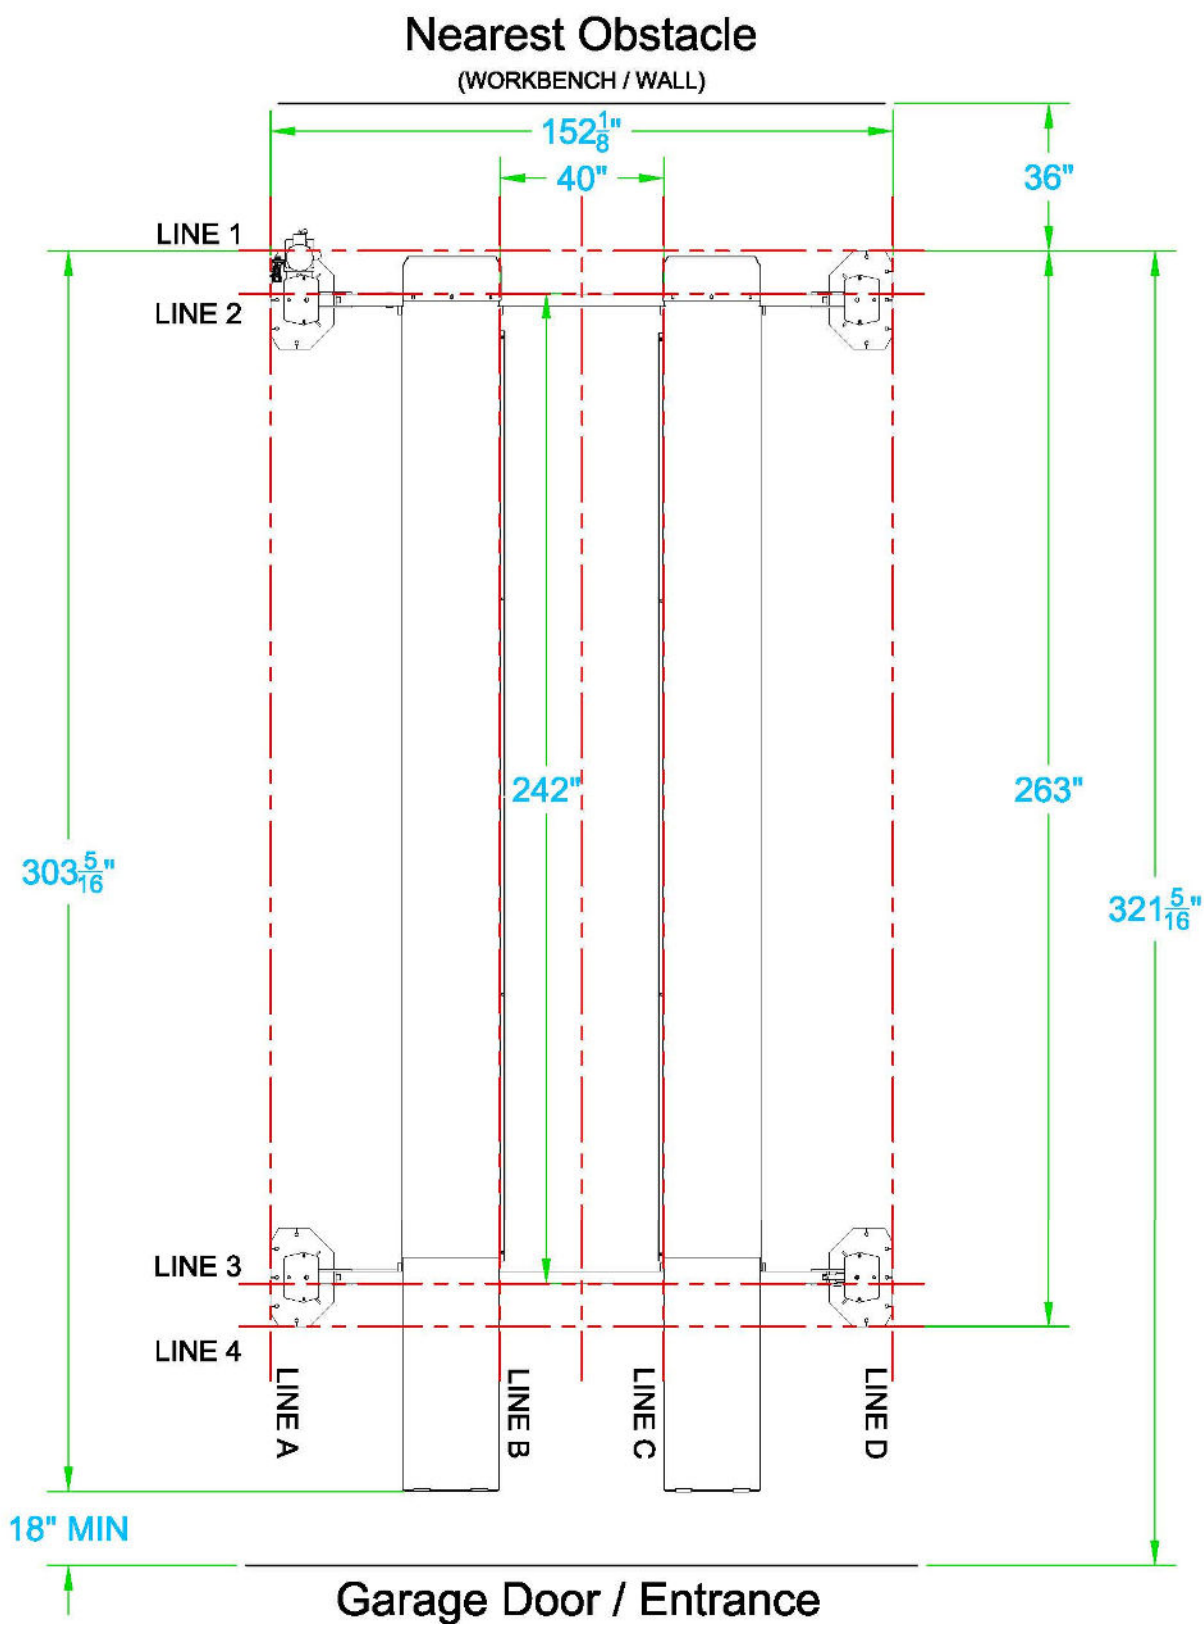

Figure 3 – Typical Bay Layout
- An outline matching the dimensions shown in **Figure 2** will need to be marked on the floor. Refer to **Figure 3** for outline dimensions. Refer to General Lift Specifications for overall lift dimensions.
- Recommended minimum clearance around the lift is three (3) feet. Ensure clearance conforms to local building and fire codes.
- Recommended overhead clearance is a minimum twelve (12) foot ceiling providing 6 feet for the maximum lift height and 6 feet for the supported vehicle. For vehicles taller than 6 feet it is recommended that the user provides additional overhead clearance or a shut off mechanism to stop the lift from raising the vehicle too high.
Before proceeding, check that the layout matches that shown in Figure 3, that the lift is square and that there is a 40" gap between the decks along their entire length. This dimension is critical as it is necessary to allow the Jackbeams to roll freely.